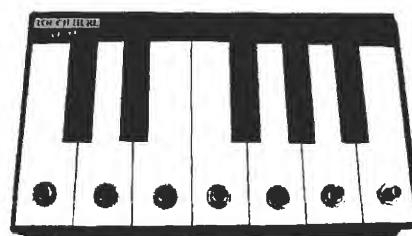
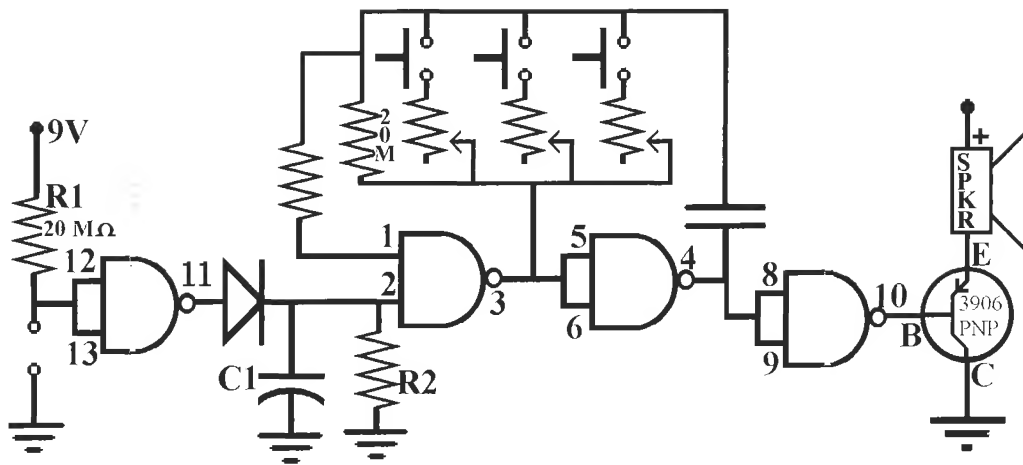

Figure L30-37
Figure L30-38
The second input changes the value of R4 in RC2. That changes the output frequency. RC2 is given stability by having a 20-megohm resistor connected. A picture is shown in Figure L30-37. The related schematic is displayed in Figure L30-38 (Table L30-9).
**Table L30-9** Related to schematic displayed in Figure L30-38